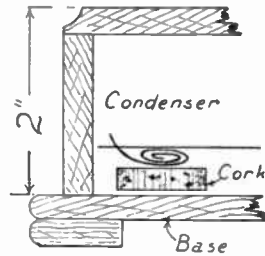

FIG. 3.
**THE CONDENSER.** — This consists of a series of Franklin's panes (old half-plate negative glass cut to size with the sharp point of a broken file). The tin-foil is placed on one side of the glass only, and is stuck on with flour paste, also strips for connection. When the condenser is placed in position in base, the spirals forming the connections are pressed down by the two corks when screwing down the baseboard by the three screws (Fig. 3). The coil is now finished, except placing the secondary coil in jar, and nearly filling with boiled linseed oil and cementing up with thick shellac varnish or paraffin wax.